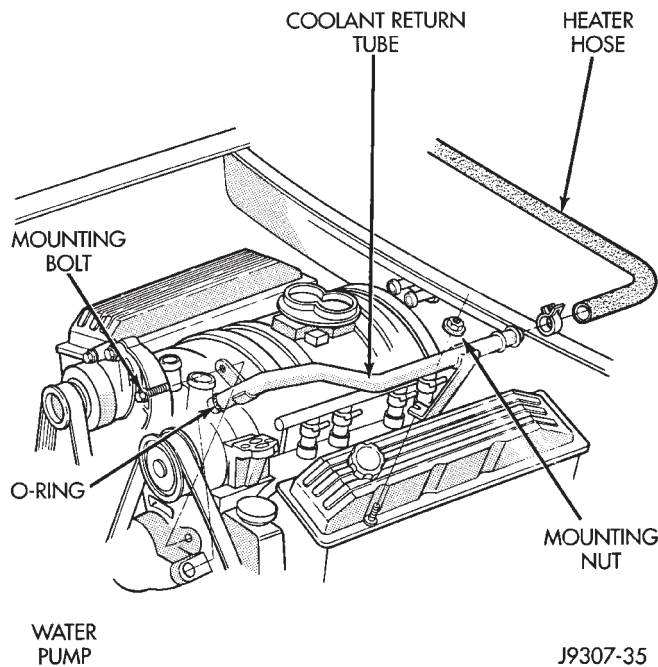

Fig. 2 Coolant Return Tube—5.2L Engine
5.2L ENGINE: One of the heater hoses is connected to the water pump with a metal coolant return tube (Fig. 2). A rubber O-ring forms a seal at the water pump end of the tube.